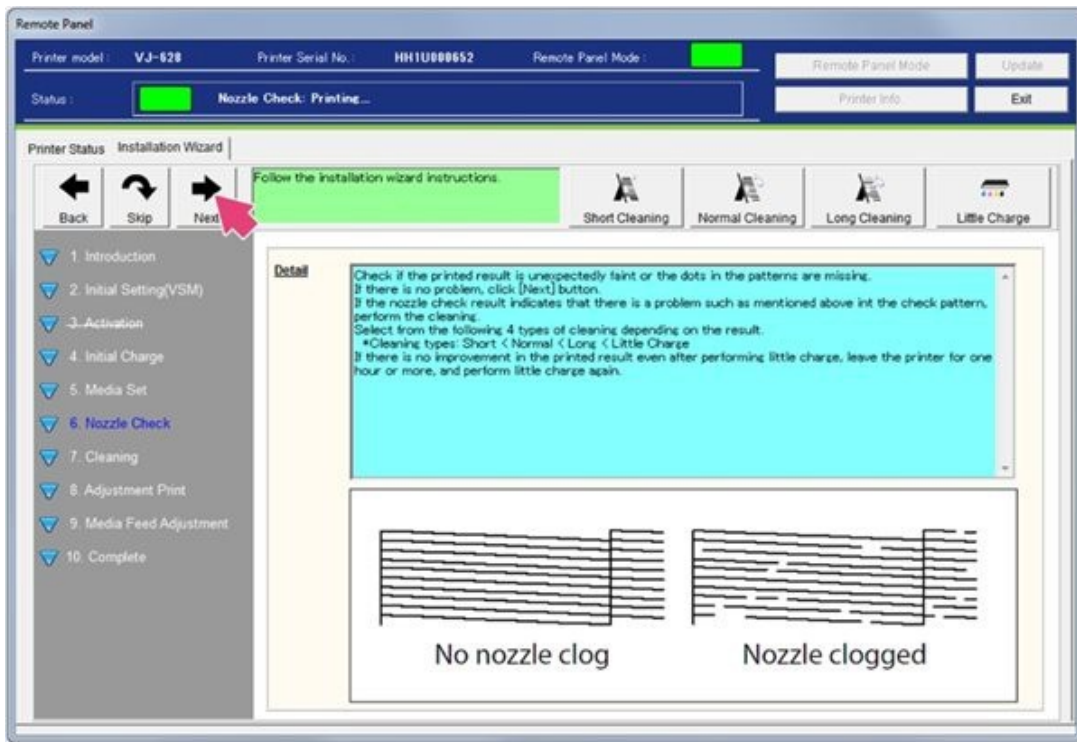

Figure 76
63. Check the printed results to determine if cleanings or an additional little charge is required. When a full nozzle check is achieved, select **Next**. See Figure 76.